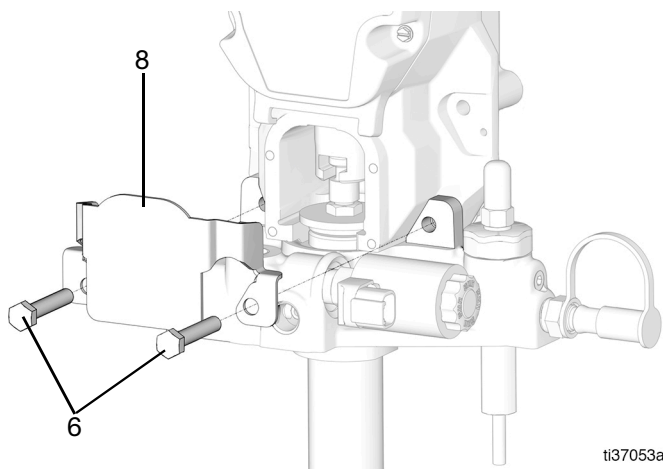

FIG. 71
31. Place the protective cover (8) in place and secure with bolts (6) and nuts (7) (not shown) (FIG. 71).